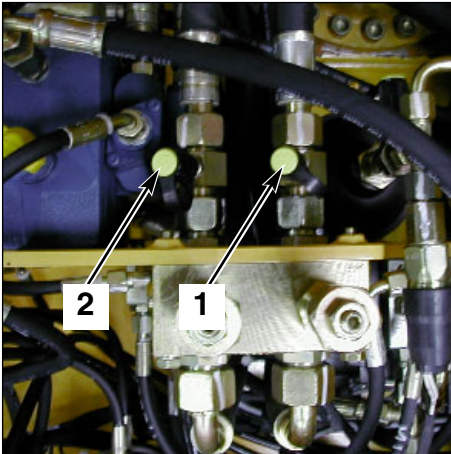

Fig. 1 Cross-over unit
- 2- Measure the difference in pressure between (1 fig. 1) and (2 fig. 1) using the two manometers.